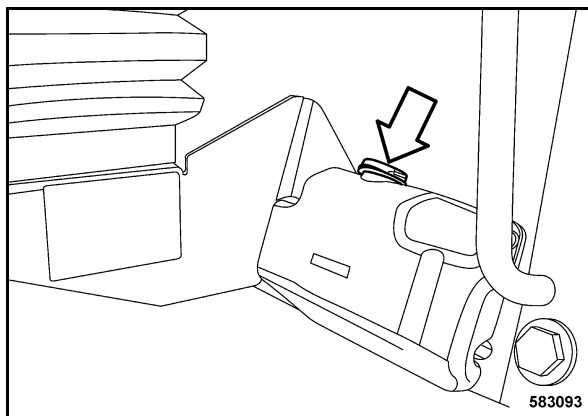

Fig. 195
- Check the fluid level in the tank (Fig. 195), top up if necessary.